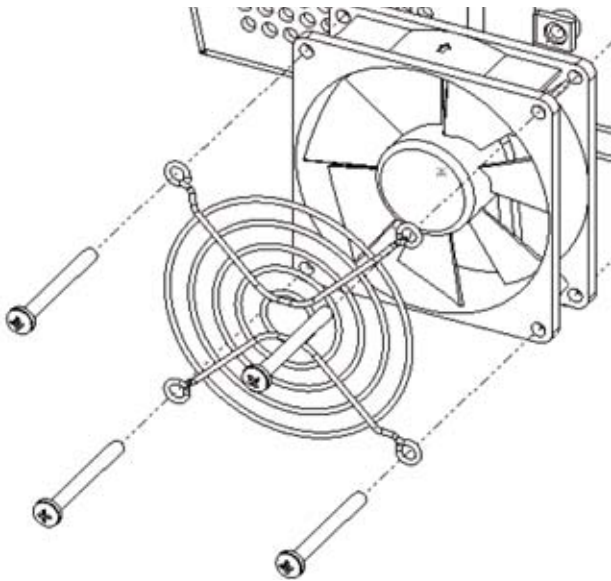

Figure 32: Removing the fan cover
- » Fan can be removed along with cover (see Figure 32). Clean the fan with a soft brush or moist cloth.